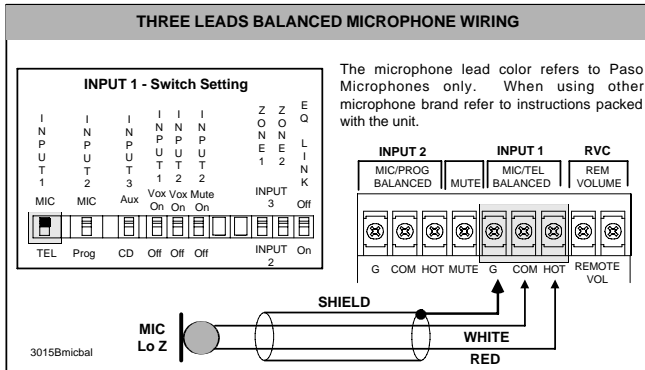
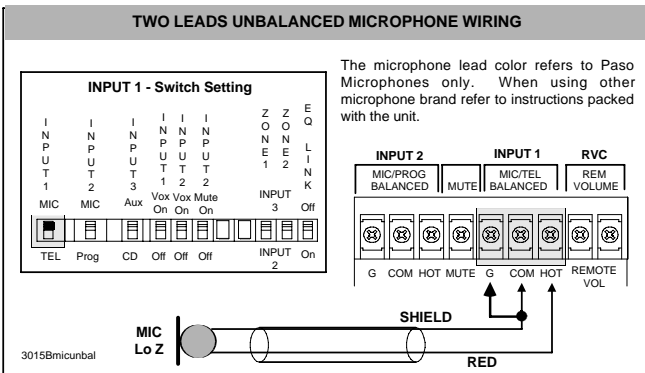

Fig. 5A - Balanced Microphone Input 1 Wiring
Fig. 5B - Unbalanced Microphone Input 1 Wiring
All PASO low impedance Microphones have a balanced output for best performance. Connect the RED lead to terminal HOT, the WHITE lead to terminal COM and the SHIELD to terminal G (see Fig. 5A).
Attach the microphone leads to the terminal strip as per diagram in Fig 5A or Fig. 5B.
**CABLE LENGTH -** If the distance between the Microphone and the Amplifier Input is greater than 15 ft (4.5 m) a Balanced Microphone must be used. Use a two conductor shielded wire and connect Microphone to Amplifier as per Diagram in Fig. 5A.
Attach the Microphone leads to the terminal strip as per diagram in Fig 5B.